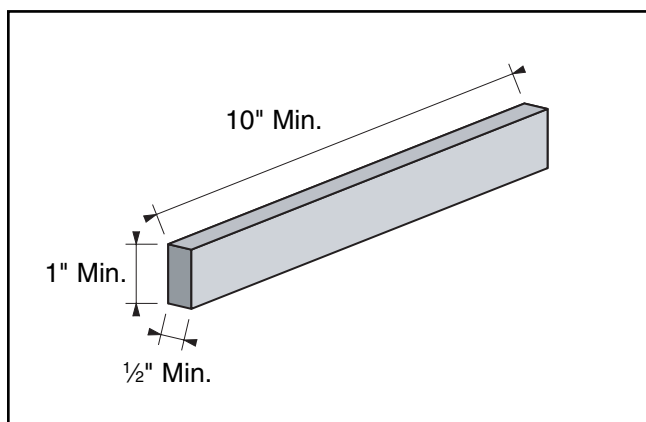

Figure 28. Minimum dimensions for edge jointing.
- **Make sure the stock meets the minimum dimension requirement (Figure 28 and 29) before edge jointing or surface planing.**